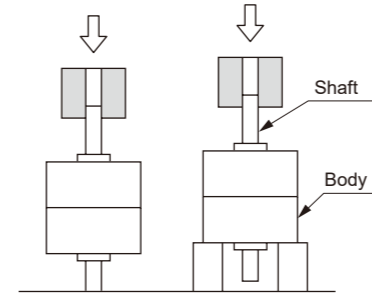

Fig. 3
■ When installing a load or jig, etc., on the rotary actuator shaft, check that load is not applied to the body as shown in Fig.3.
(3) Turn the angle adjustment Hexagon Bolt, Hexagon Nut, and seal washer together as shown in Fig.3, and adjust the angle. At this time, be careful not to let the rubber part of the seal washer get caught in the threaded part.